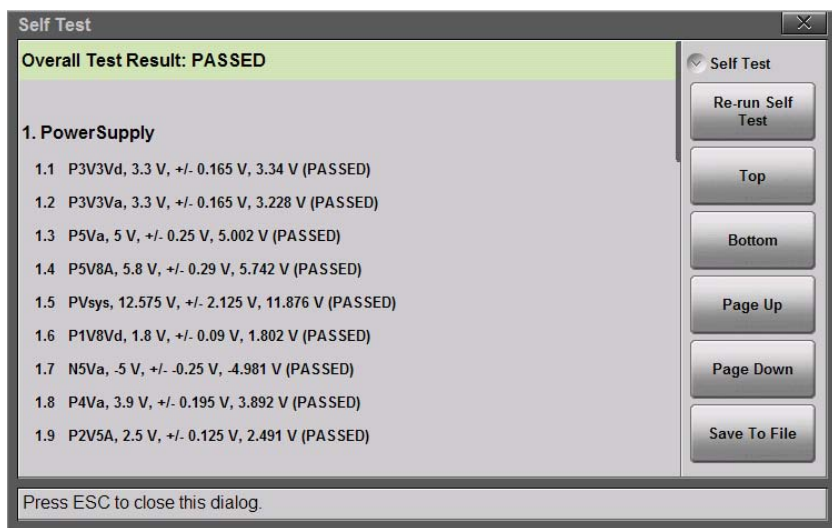

Figure 11-1. Site Master Self Test
1. Press the **System (8)** key.
2. Press the Diagnostics submenu, then **Self Test**. The test starts, and the results are displayed in the dialog box (Figure 11-1).